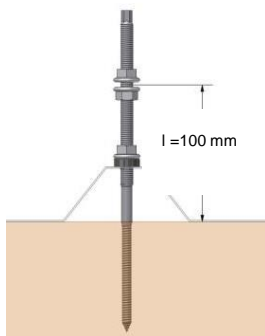

Figure 52: Fixing distance
- For stress reasons, the distance to the roofing must be kept as small as possible, see Figure 52: Fixing distance.